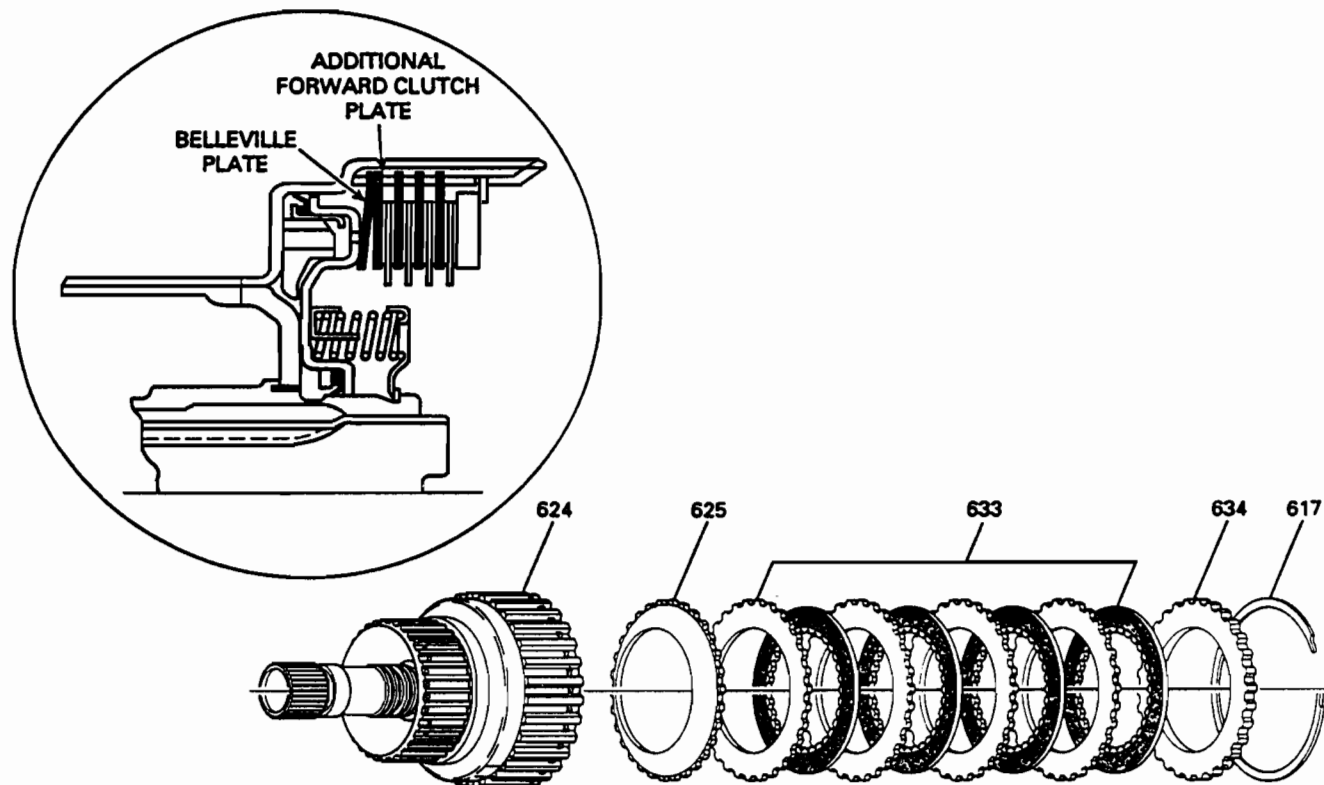

Figure 2
**CHANGE:** Beginning June 24, 1993 (Julian Date 154) ALL 3T40 (125C) transaxles were built with a re-designed Forward Clutch Pack, as shown in Figure 2.
- (1) **WAVE PLATES** - The two previous "Wave" plates have been eliminated, as shown in Figure 2.
- (2) **BELLVILLE PLATE** - Added to the forward clutch pack to replace the two wave plates, and provides more resistance to improve the forward clutch apply feel (See Figure 2).
- (3) **STEEL PLATE** - There is one "Flat" Steel plate added next to bellville plate, as shown in Figure 2.
- (4) **BACKING PLATE** - The backing plate used in the re-designed forward clutch pack happens to be the thinnest of the current design selective backing plates, and was used to make the forward clutch clearance correct. Because of the elimination of the "Wave" plates there is no longer any need for selective backing plates and this backing plate will be used in all models. The backing plate being used is .125"-.131" thick and is stamped "D" for identification.